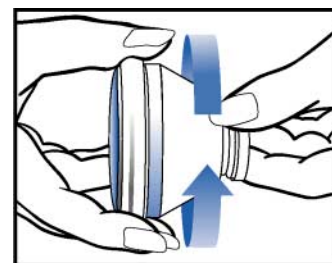

Figure 10
5. Carefully inspect to insure both ends of Liner are securely attached in their grooves. See **Figure 10**.